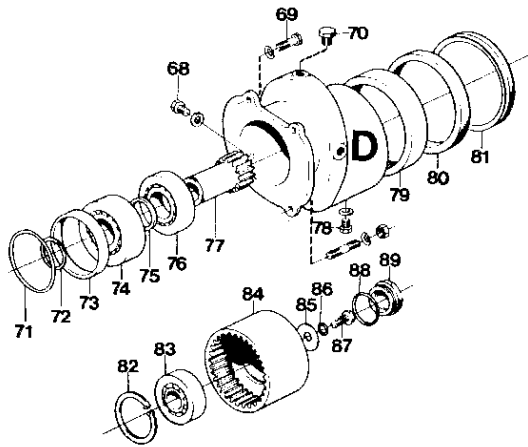

Fig. 7
1. Remove the plug (89) and the screw (87) together with the washers (85 and 86) see Fig. 7. NOTE! Scrap the O-ring (88) on the plug.
2. Pull off the gear wheel (84) with the help of puller 884078 (place a spacer sleeve or such between the centre bolt of the puller and the threaded pin).
3. Carefully tap out the drive (77) together with the bearings (74 and 76), using a brass drift.
4. Pull off the sealing ring (81).
5. Lever loose the sealing ring (80).
6. Clean the parts thoroughly and inspect the bearings and gear wheels. If any of them has to be replaced, see the respective points below. NOTE! The bearing (83) in the large gear wheel (84) as well as the large bearing (79) must be replaced after removal. If it is desired to prevent the bearing (74) from being damaged when the gear wheel (77) is pressed out, a counterhold must be placed against the bearing inner ring.
7. Tap out the bearing (79) with the help of a drift.
8. Remove the circlip (72) and press out the drive (77) with drift 884266. Then remove the spacer washer and inner bearing. Carefully tap loose the bearing (76) inner ring with a slender brass drift.
9. Press out the bearing (83) with the help of a suitable sleeve or drift.